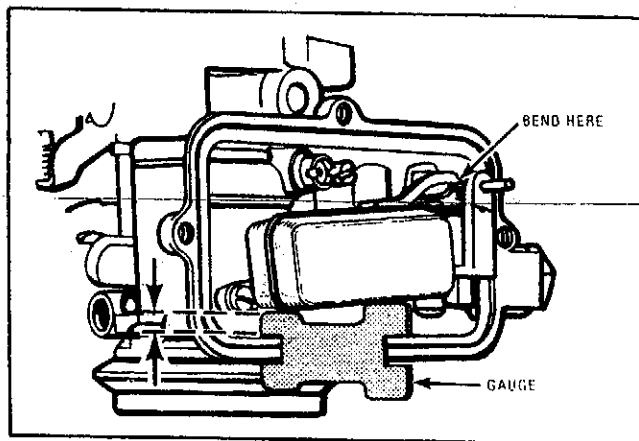

Figure 1
- A. When installing the idle adjusting screw (58), lightly bottom (do not force), then back out 1½ turns.
- B. When installing the pump inlet and discharge balls (41 and 39), take note that the inlet ball (41) is the larger of the two.
- C. When installing the main well and economizer body (34), place the left palm over air horn and with fingers hold the main well body in place. Start screws (32 and 33) and apply thumb pressure against protruding end of pump push rod sleeve (45) compressing spring. Release thumb pressure before fully tightening screws. This positions diaphragm for proper flexing action.
- D. When installing the fuel inlet valve and seat (24 and 25), make certain that seat and gasket fit flush with side of casting and that fuel inlet seat screw (22) is firmly tightened. A leakage of fuel between gaskets and seat will result in a flooding condition.
A. Float Level: (Fig. 1)